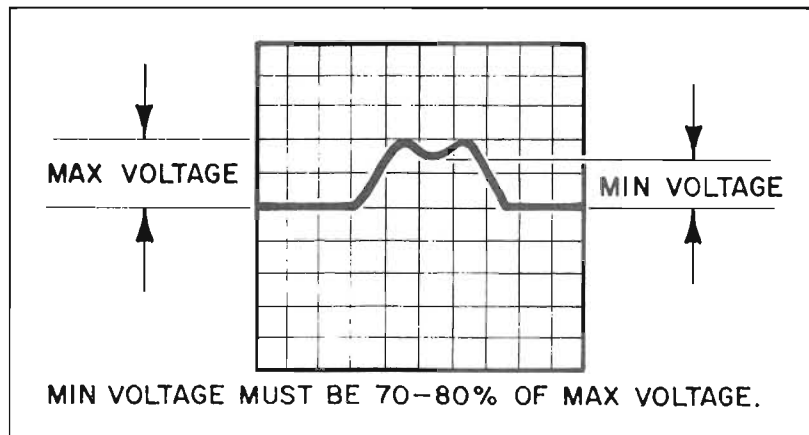

FIGURE 4-19 TRACK ZERO WAVEFORM
6. Adjust with a 9/64 inch "L shaped" Allen wrench until the waveform is obtained as shown in Figure 4-19.